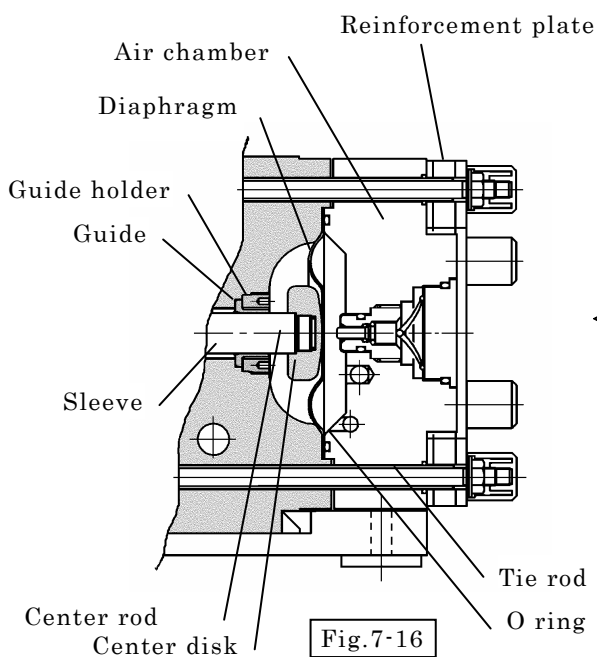

Fig. 7-16
- Install the diaphragm so that its protruded part can face the inside. [Fig. 7-16]